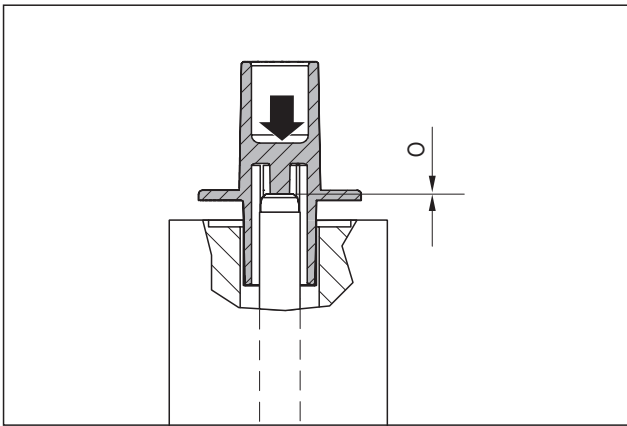

Fig. 54 Completely attach the adjustment tool
- 4.** Completely attach the adjusting tool with the smooth side on the espagnolette bolt (Abb. 54).